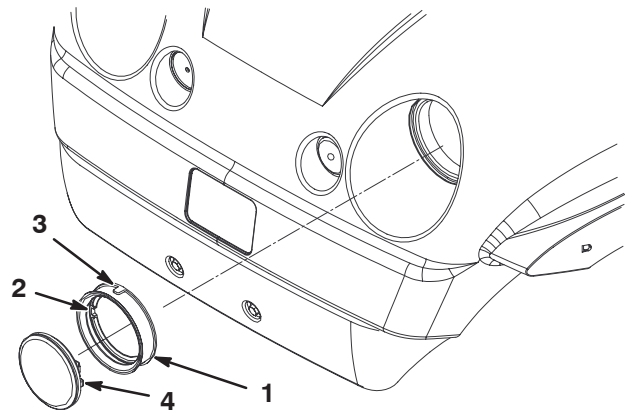

Figure 47
4. Remove the rubber seal from around the headlight (Fig. 47). Discard the headlight.
5. Align the notch on the inside of the seal with the notch on the new headlight (Fig. 47). Slide the seal onto the headlight until the seal is firmly in place.